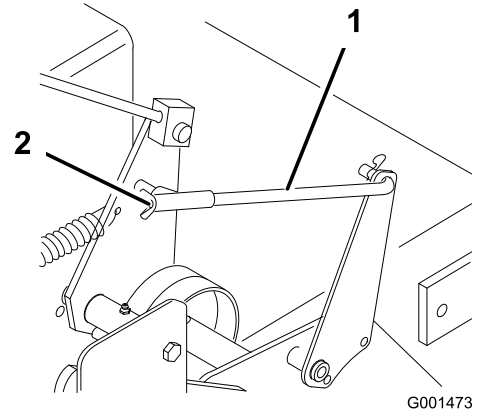

Figure 36
5. To adjust the brake, rotate the wing nuts on the brake rods (Figure 36).